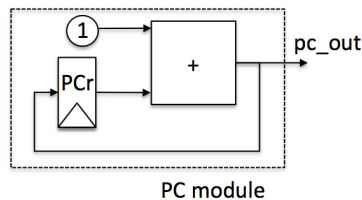

Figure 4: Block diagram of PC.
The program counter (PC) is a simple counter that will count from 0 to xx depending on the size of your program. In order to simplify your implementation let's say the PC is supposed to count from 0 to 31 (you can always extend it later on if you need to). Figure 4 shows the block diagram for the PC. When writing your code observe that PC *always* does the same calculation in each clock cycle. Once you've built it verify that it is working using `$display` and Waveforms using GTKwave.
In order to run it, see subsection 3.1. When implementing the block diagram on Figure 4 pay attention to when the addition happens and where the output of the addition is led.